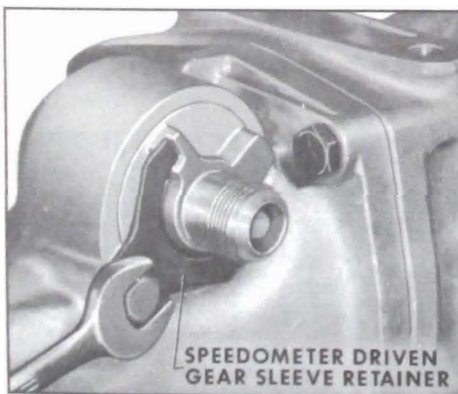

Figure 5-133
1. With transmission in horizontal position, remove speedometer driven gear sleeve retainer with a 1 1/2" wrench. See Figure 5-133.